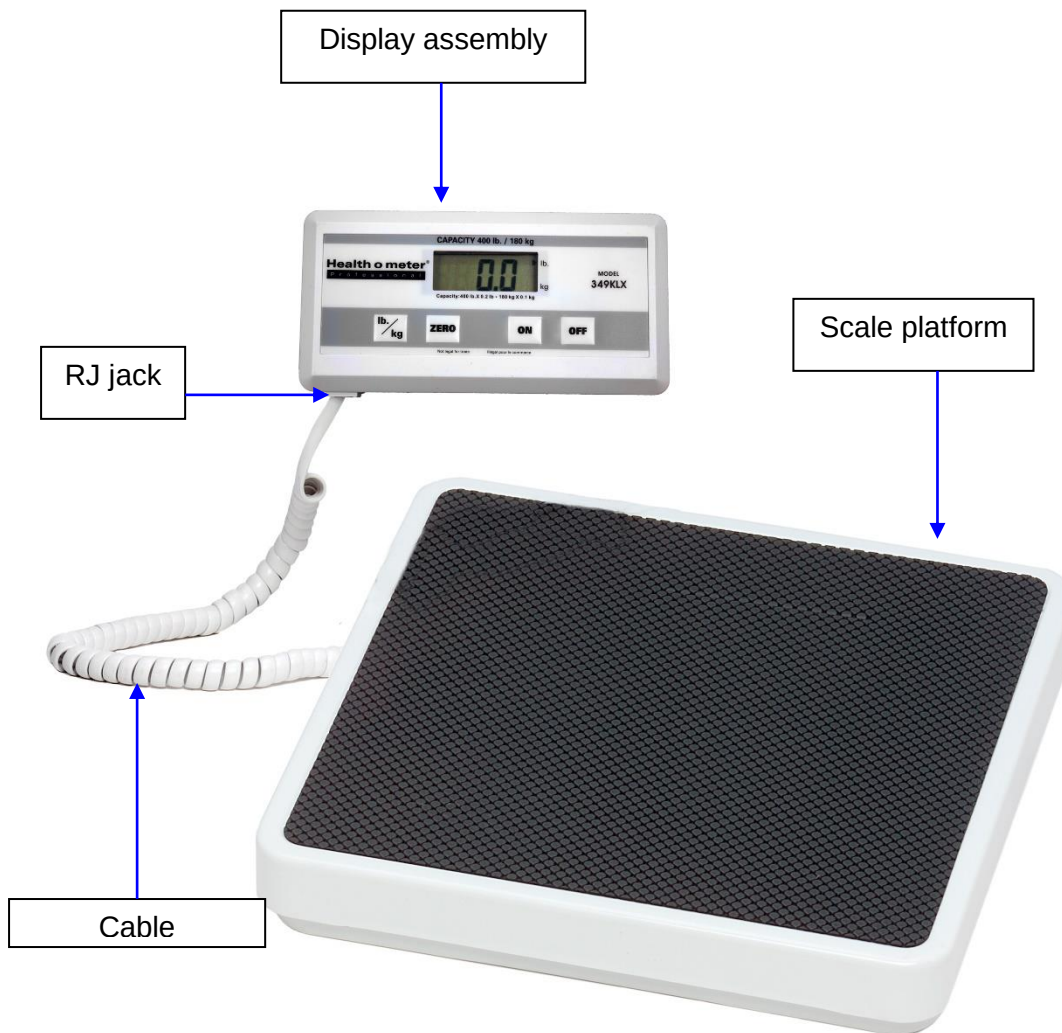

Figure 3
1. Carefully remove the scale platform and display assembly from the carton, and place the scale platform and display assembly on a flat, level, and dry surface (see Figure 3 on page 9).